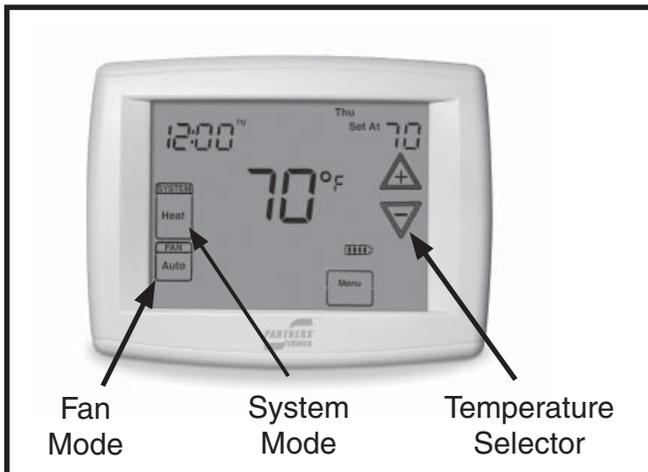

Figure 1. Digital Thermostat
1. Set the thermostat's system mode to COOL or AUTO. See Figure 1
1. Set the thermostat's system mode to HEAT or AUTO and change the fan mode to AUTO. See Figure 1.
1. Set the thermostat system switch to AUTO and the thermostat fan switch to AUTO. See Figure 1.
Set the thermostat fan mode to ON (Figure 1). The indoor blower starts immediately, and will run continually until the fan mode is reset to AUTO.
Change the thermostat's system mode to OFF and the fan mode to AUTO. See Figure 1. **NOTE:** The system will not operate, regardless of the temperature selector setting.